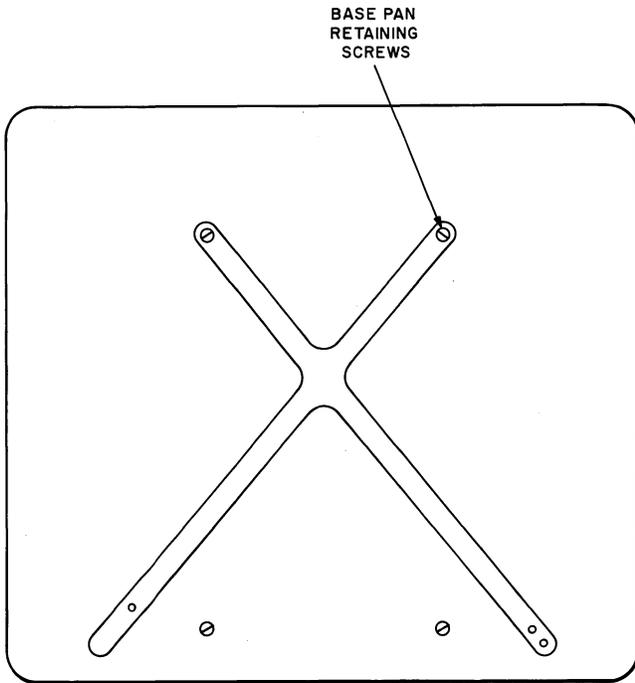

Fig. 9 — Data Auxiliary Sets 801C1 and 801C2 — Base Pan
- (c) Turn ACU upside down to expose underside of basepan (Fig. 9).
- (d) Remove the four basepan retaining screws (Fig. 9).
- (i) Replace basepan and four retaining screws (Fig. 9).